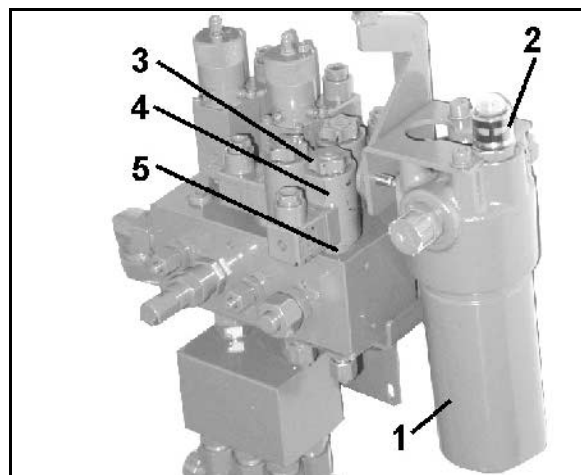

Fig. 78
During operation the function of the hydraulic oil filter (Fig. 78/1) can be checked on the control block. Indication in the check window (Fig. 78/2):
- Unscrew solenoid cap (Fig. 78/3)
- Remove magnet coil (Fig. 78/4)
Screw out the valve rod (Fig. 78/5) with valve seat and clean with compressed air or hydraulic oil.